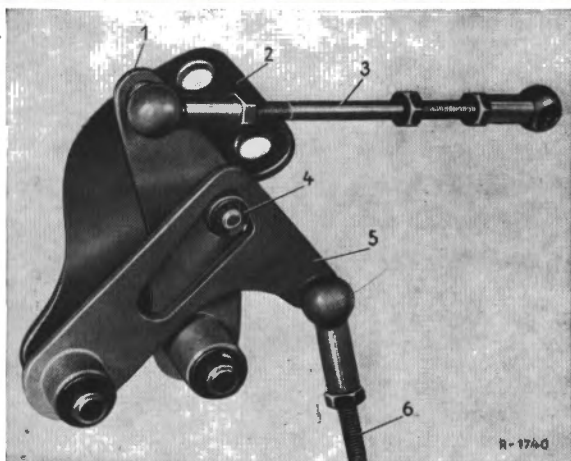

Fig. 00-16/7
5. On engines with progressive linkage check the limit stop of the roller (4) in the quadrant lever (5) and if necessary adjust as follows:
Adjust the pull rod (3) in such a way that the roller (4) lightly rests against the limit stop in the quadrant lever (5) without exerting any force (Fig. 00-16/7).